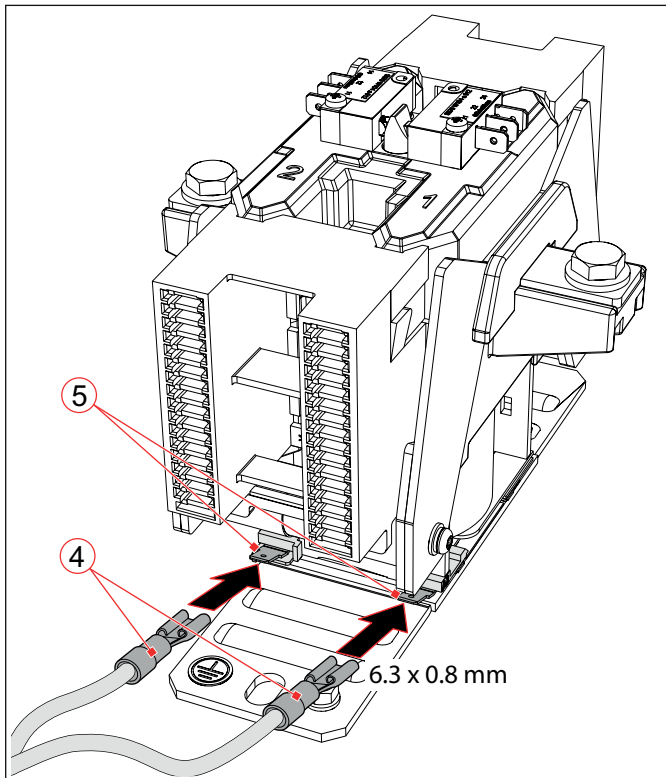
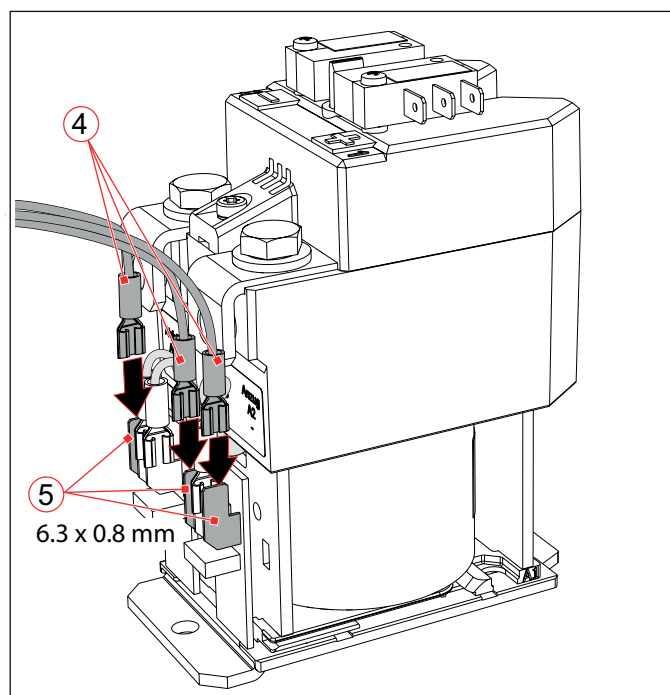

Fig. 23: C195 X/: Connecting the coil
Fig. 28: C195 S/ ...BD latching contactor: Connecting the coil
- ▶ Move and route the control wires and receptacles only in the direction of plugging, see *Fig. 23 to Fig. 28*.